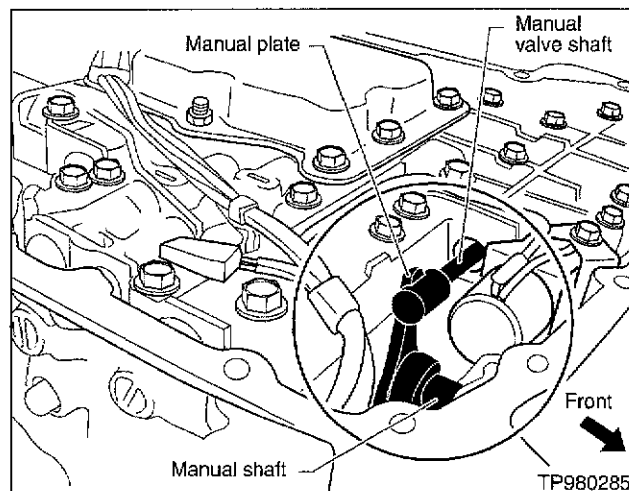
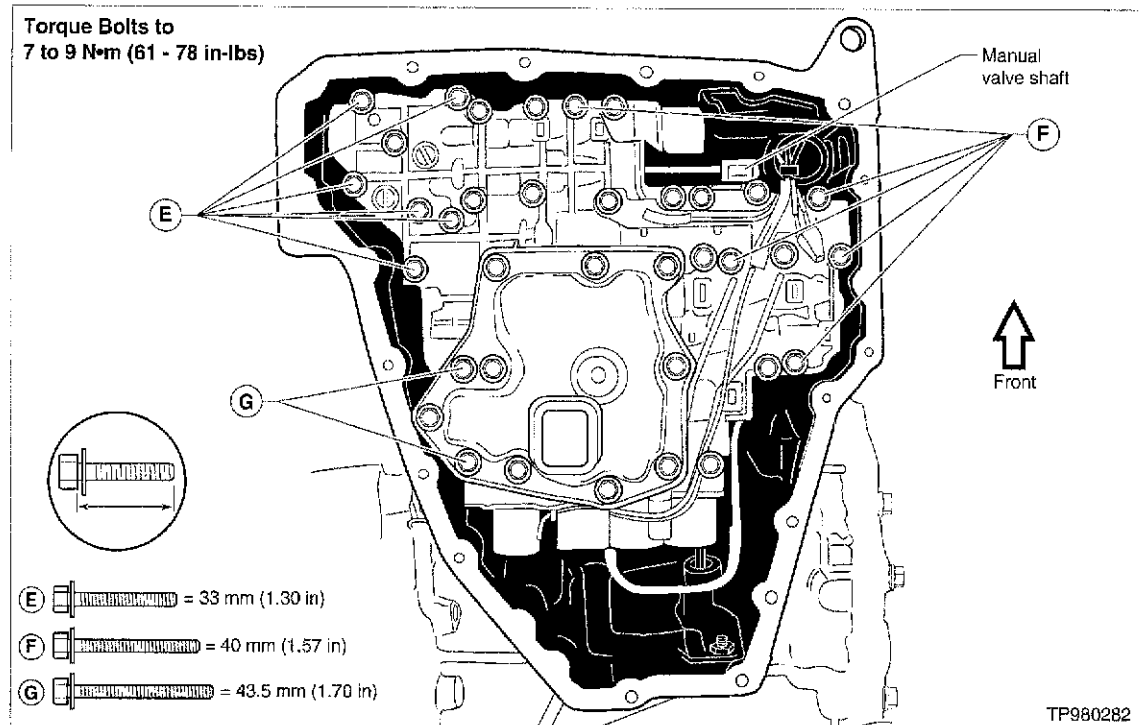

Figure 5
Figure 6
12. Position the control valve assembly on the transaxle ensuring the manual valve shaft correctly engages the manual plate (see Figure 5) and install all mounting bolts in their original locations finger tight (see Figure 6). Then, using an appropriate torque wrench tighten all mounting bolts in a criss-cross pattern to 7 - 9 N•m (61 - 78 in-lbs).
IMPORTANT: The control valve assembly is secured with bolts of varying lengths. Make sure the bolts are re-installed in their original locations (see Figure 6).